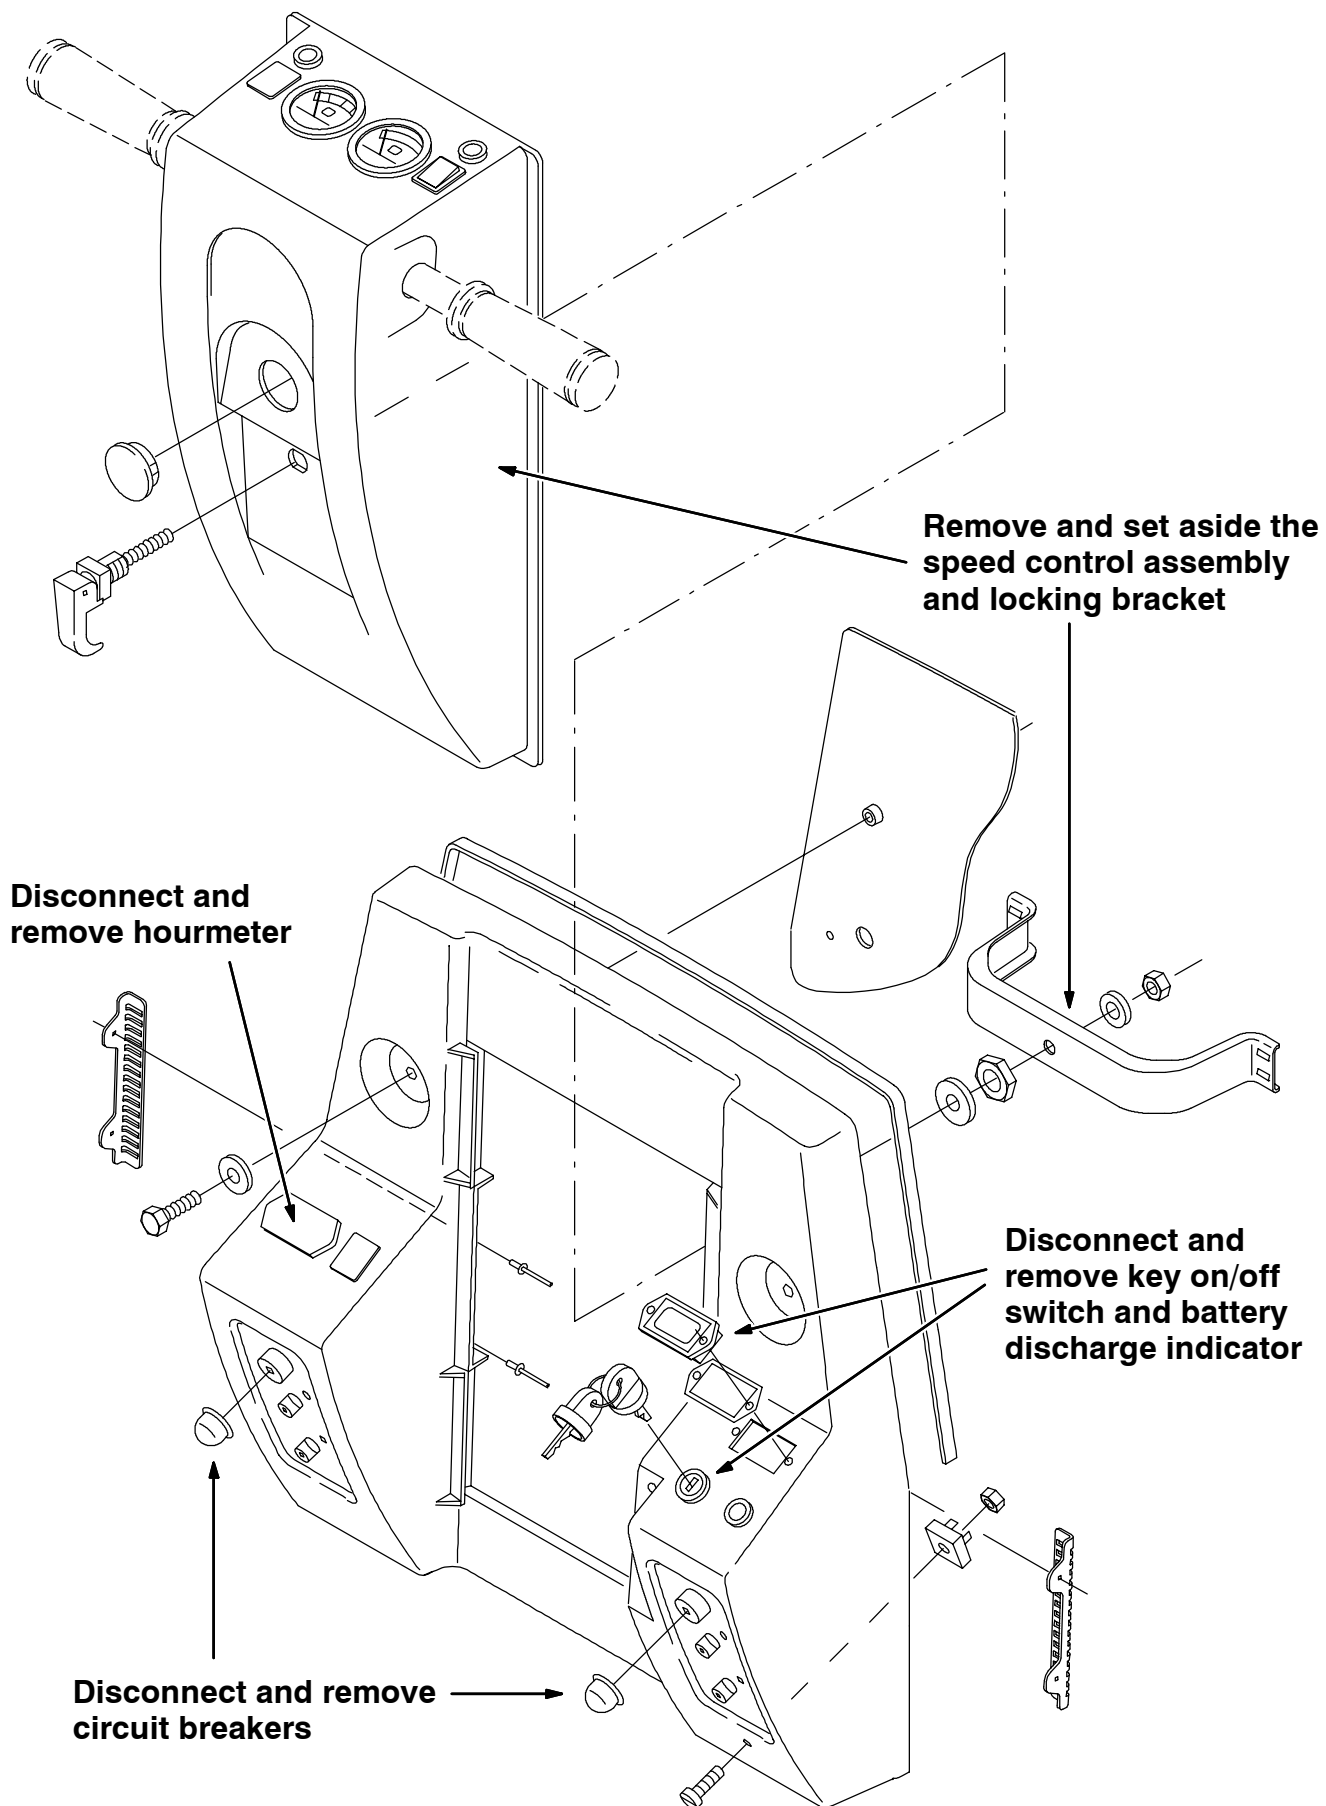

FIG. 1 - OLD SHROUD REMOVAL
(Refer to FIG. 1 and 2)
2. Remove the M8 hex screws holding the rear electrical panel to the electrical mounting plate. Tilt the panel out. (Refer to FIG. 1)
5. Loosen the speed control handle latch, and remove the shroud locking bracket from behind the shroud. Set the speed control handle and locking bracket aside. (Refer to FIG. 1)
6. Disconnect, remove and set aside the hourmeter, power wand switch and circuit breakers from the left hand side of the shroud. (Refer to FIG. 1)
7. Disconnect, remove, and set aside the battery discharge indicator, on/off key switch and circuit breakers from the right hand side of the shroud. (Refer to FIG. 1)